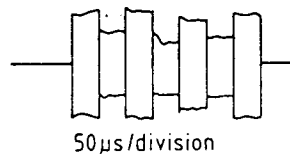

Fig. 4.8. Bell filter signal waveform before adjustment
- Adjust coil L854 until the B-Y and R-Y signals are of equal amplitude. See Figs. 4.8. and 4.9.